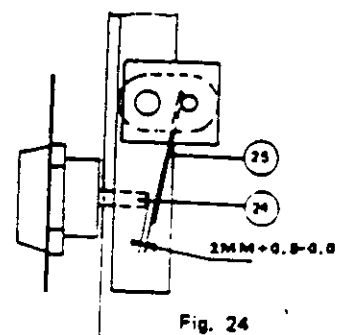

Fig. 24
If the breaker is fitted with a signal system for overload and short circuit tripping with local reset, adjustments should be carried out as previously outlined. In other cases, adjust screw (24) (Fig. 24) for obtaining clearance of  $2 \pm 0.5 \pm 0.0$  mm ( $0.079 \pm 0.158$  inch) between strip (25) and the end of the screw (24).